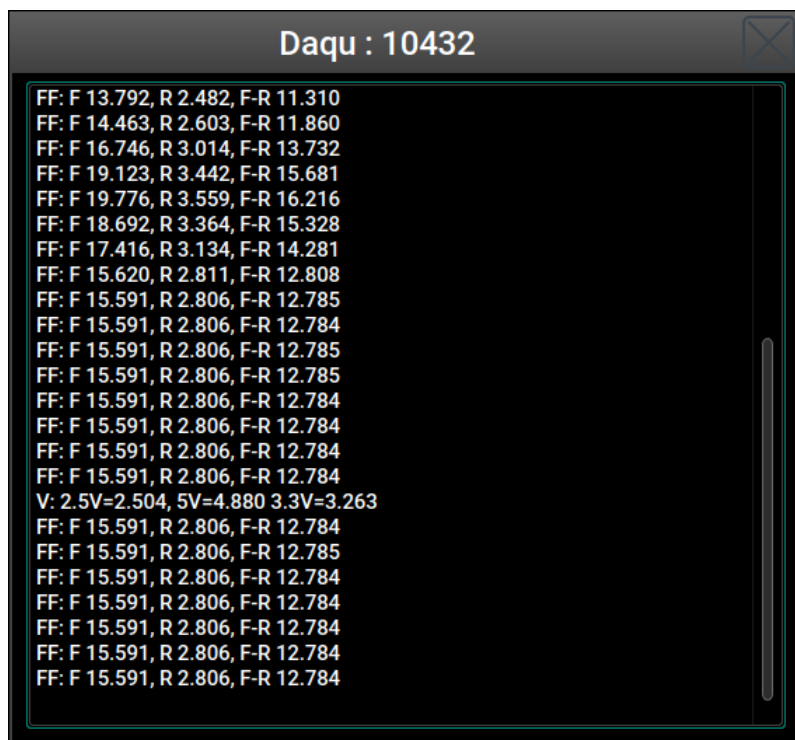

Figure 50: An example of Daqu console output in Nesis.
4. The **Open console** is the correct option. This opens console window for Daqu. You will see something like shown on Figure 50.